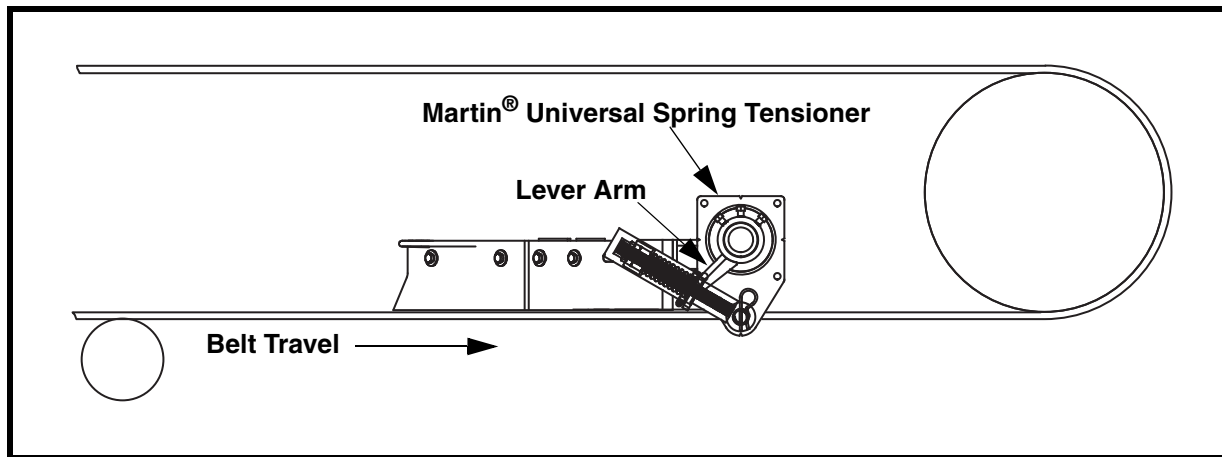

Figure 6. Installing Tensioners on V-Plow
- b. Install Martin® Universal Spring Tensioners. Tensioner lever arm must be positioned as shown in Figure 6 to apply pressure to the nose of plow. Refer to *Martin® Universal Spring Tensioners XHD, HD Max and PD Operator's Manual, P/N M3512* for tensioner assembly drawings and part numbers.